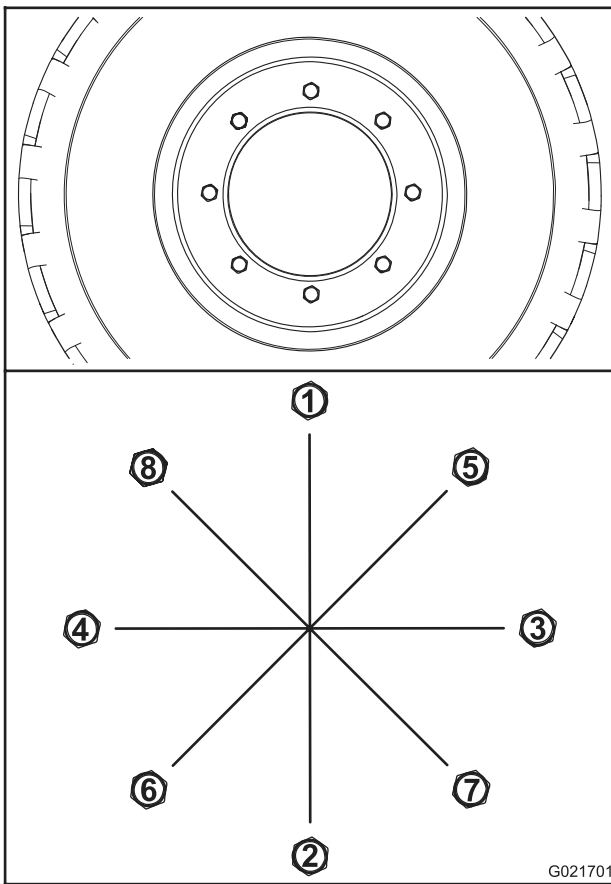

Figure 61
- A. Torque the all wheel nuts to 100 N-m (75 ft-lb) in the sequence shown in Figure 61.
- B. Torque all the nuts to 200 N-m (150 ft-lb) in the sequence shown in Figure 61.
- C. Torque all the nuts to 300 N-m (225 ft-lb) in the sequence shown in Figure 61.